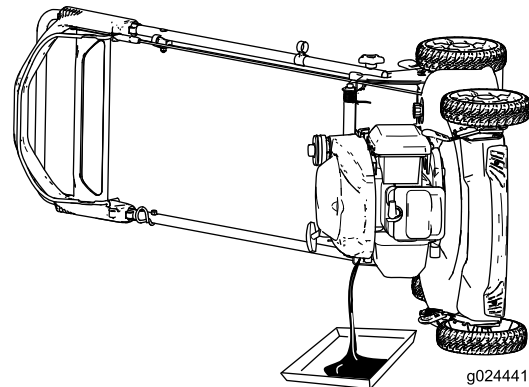

Figure 30
4. Tip the machine onto its side with the dipstick down to drain the used oil out through the oil-fill tube (Figure 30).